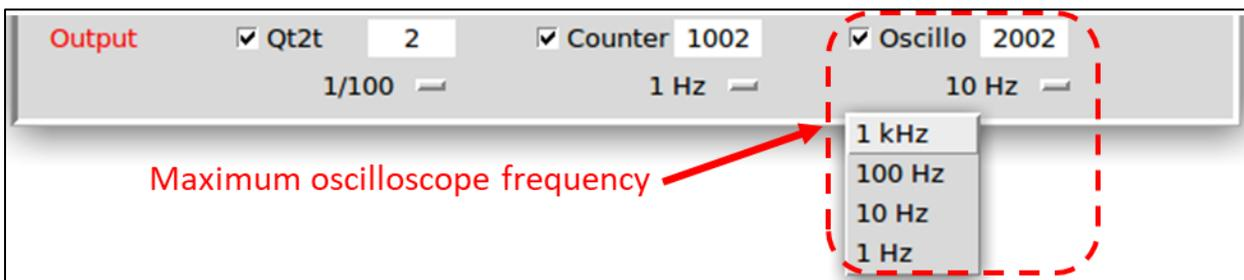

Figure 7: Maximum frequency of the oscilloscope frame definition
If "without trig" is checked in ⑥ (Figure 6), Oscilloscope module does not use the Trigger module or BLR Trigger to start storing an oscilloscope frame, but it uses a clock, whose frequency is defined in the "Data output" module (cf. Figure 7).